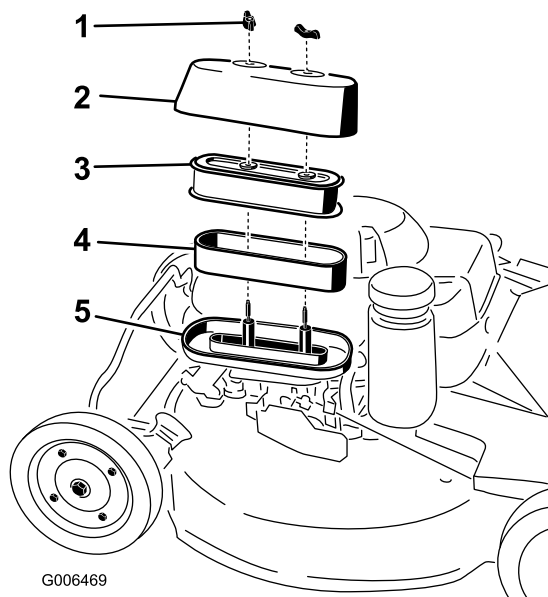

Figure 26
3. Remove the 2 nuts that secure the cover (Figure 26).
5. Remove the foam and paper elements from the base (Figure 26).
6. Remove the foam element from the paper element (Figure 26).